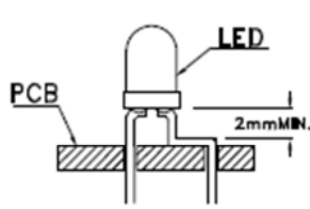
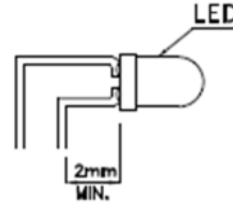

Fig. 5.
Fig. 6
1. Maintain a minimum of 2mm clearance between the base of the LED lens and the first lead bend (Fig.5 and Fig.6).